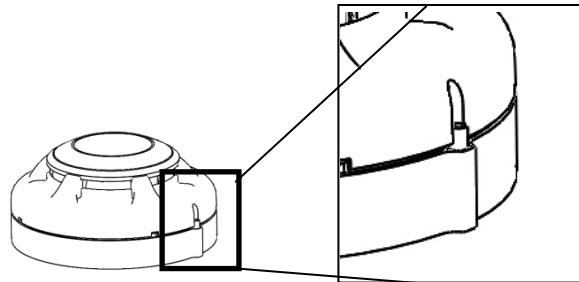

Figure 15: Position of the locking screw to lock the detector
3. Install the heat detector into the mounting base, making sure the wiring does not obstruct mounting of the detector head. Push the heat detector into the mounting base while turning it clockwise until the heat detector locks into place. Use a small hexagonal wrench to set the tamper resist feature (if required), see Figure 15.
The EVA-UB series, EVA-S6 Base, and EVA-STB series of smoke/heat detector mounting bases have a tamper-resist feature that works in conjunction with the heat detectors. When this feature is enabled, the heat detectors cannot be removed from the base without the use of a small hexagonal wrench. To avoid unauthorized removal of the heat detector, turn the locking screw in the mounting base counterclockwise until the screw extends out about 4 mm (3/16 in.) from the rim of the base, as shown in the Figure 15.